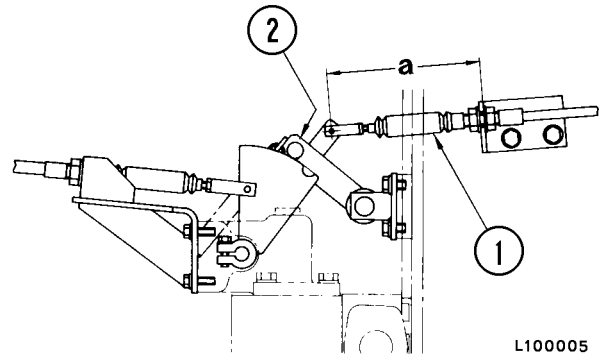

FIGURE 10-5. LINKAGE ADJUSTMENT
1. Adjust push cable (1, Figure 10-5) to the standard length A.